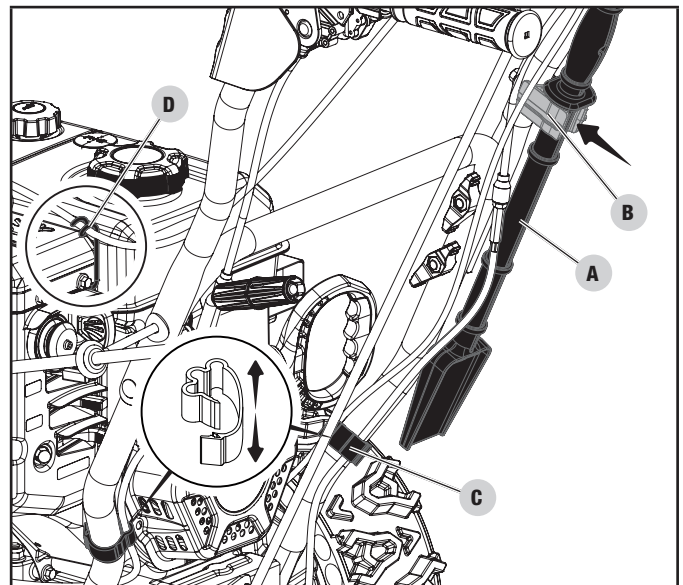

Figure 11
- Attach clean out tool (A) into clip (B) on right side handle bar (Fig. 11).
- Attach two clamps (C) on lower handle to hold cables coming from hand levers and to hold the heated hand grip power cable. The clamps have an interlocking shape. Spread the clamps out axially into a spiral shape to slide the interlocking shapes into each other from the opposite edge (Fig. 11).
- Route the chute deflector cable through the corkscrew support (D) between the fuel tank and the muffler (Fig. 11).